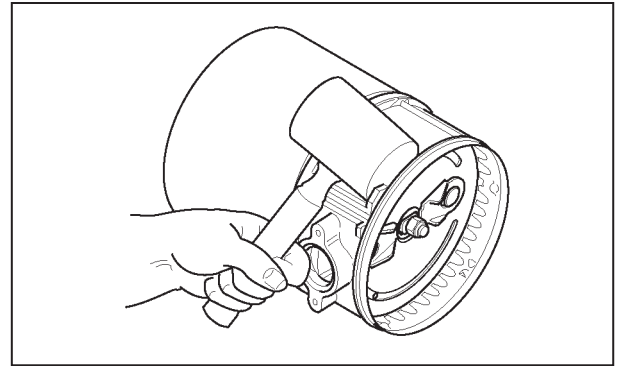

Figure 4.18
8. Place disposer on its side. Lightly tap upper end bell ridge with rawhide mallet until upper end bell begins to separate from stator (see Figure 4.18).